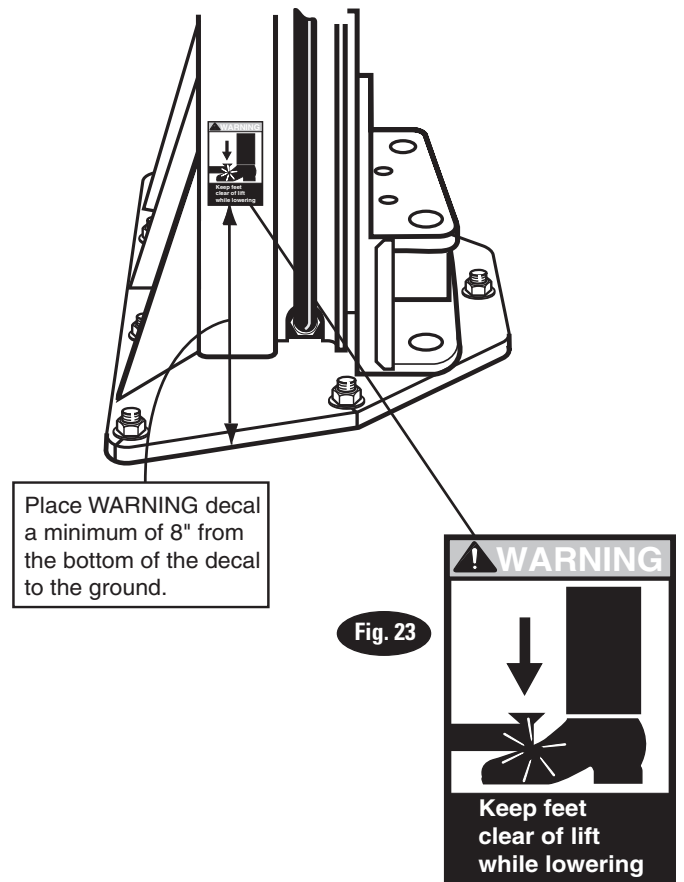

Fig. 23
**24. Pinch Point Decal Location:** Install enclosed pinch point decals. Place (1) decal on each column, Fig. 23.